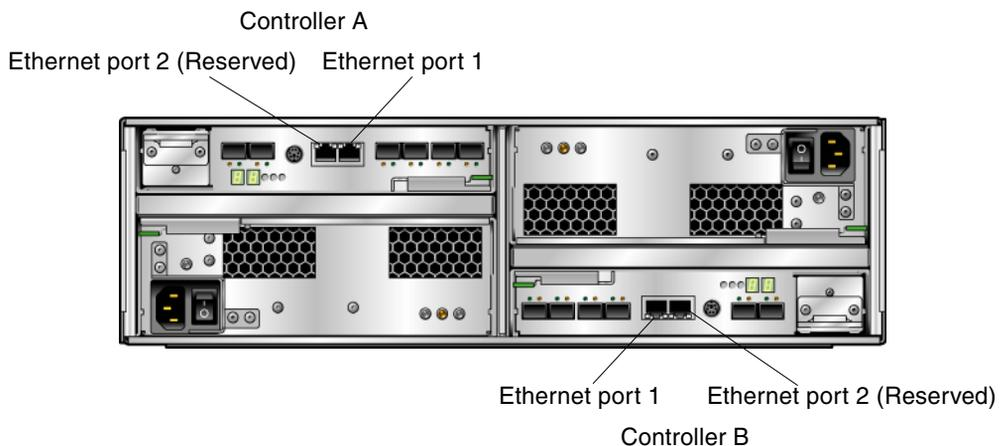

FIGURE 4-1 Ethernet Ports for Controller A and Controller B
The management host directly manages Sun StorageTek 6140 Arrays over an out-of-band network. This section describes how to setup a connection between the Ethernet port of a controller (FIGURE 4-1) and the management host.
1. **Locate the Ethernet port 1 for Controller A and Controller B at the back of the controller tray (FIGURE 4-1).**
1. **Locate Ethernet port 1 on Controller A and Controller B at the back of the controller tray (FIGURE 4-1).**